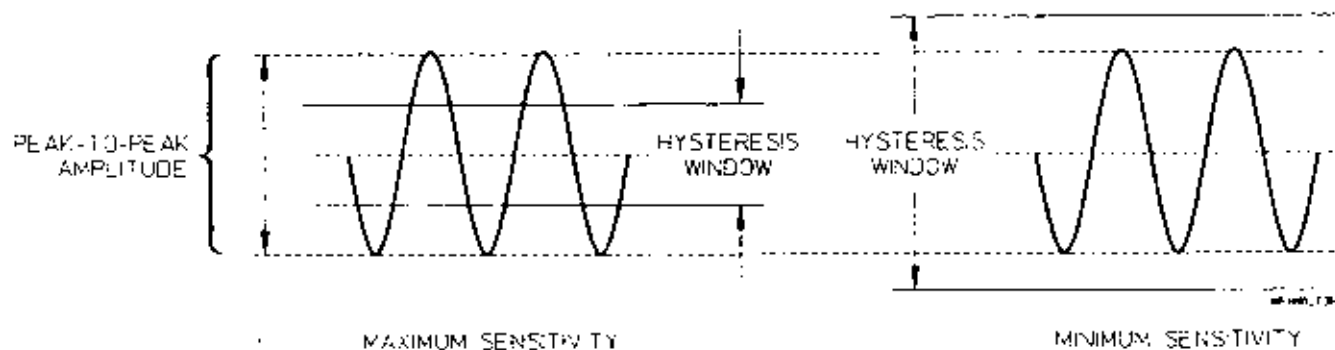

Figure 4-14. Hysteresis Window and Input Sensitivity
*At minimum sensitivity, the hysteresis window is increased requiring a larger peak-to-peak voltage to generate a count, as shown in Figure 4-14. Optimum sensitivity depends on measurement application and other factors such as noise or interfering signals.*